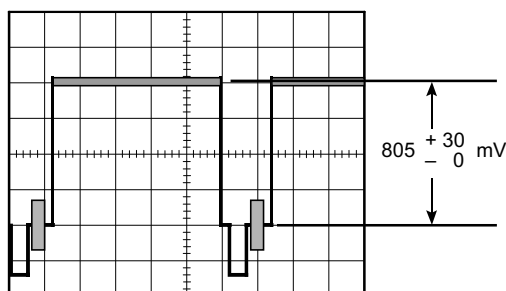

Fig. 4-4
- Adjust data with the **ARROW** keys so that the High Clip Level becomes $805 \begin{smallmatrix} +30 \\ -0 \end{smallmatrix}$ mV as shown in Fig. 4-4.